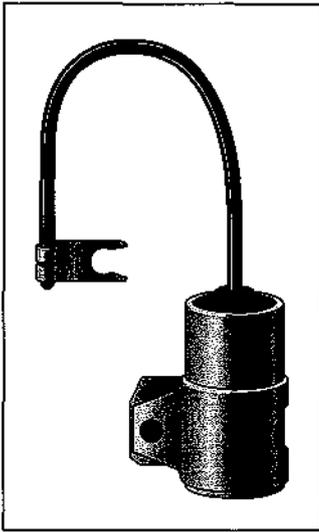

Figure 5-17:
- ④ The condenser (shown in Figure 5-17) is an electrical "sponge" that keeps the points from burning up. This small metal cylinder prevents the electricity from arcing across the gap when the points are open, which would cause the points to burn. Condensers should be replaced periodically, along with the points and rotor. Chapter 12 shows you how to do so.